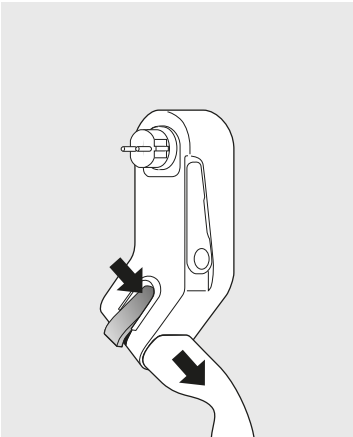

Fig. 3: Unlocking the type 2 outlet
2. Unplug the Mobility Dock (A) from the wall socket
3. Unlock (D) the wall support (E) and bring it into the starting position
4. If necessary, unlock the charging plug with the orange lever (B) and unplug it (see fig. 3)